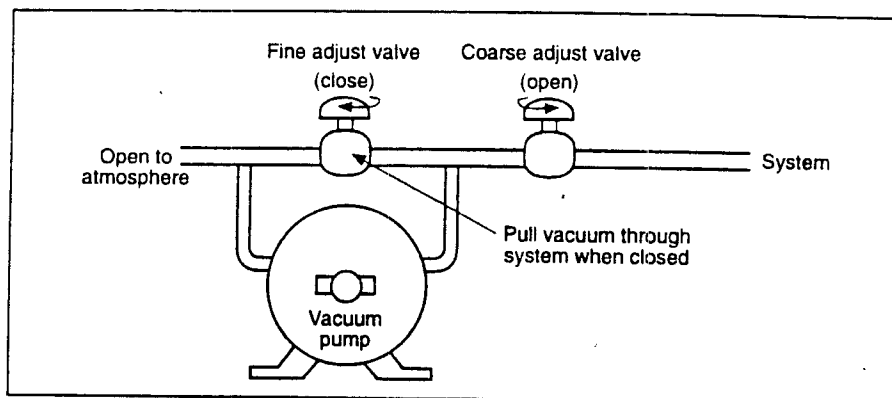

Figure C-3. Valve operation during leak check
- b. Refer to Figure C-3 and perform the following: